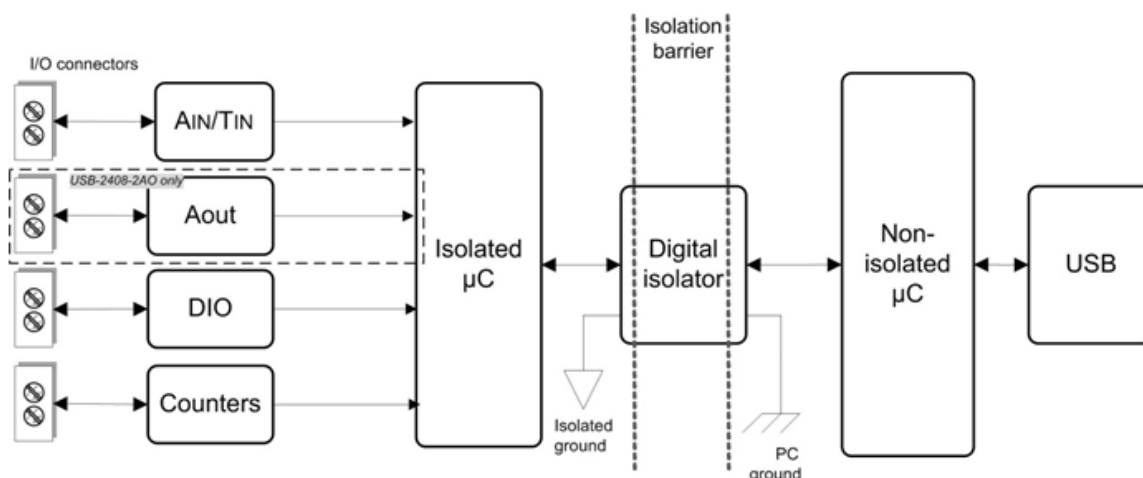

Figure 5. USB-2408 Series input isolation diagram
- All analog measurements are made relative to the isolated ground. See Figure 5 for details.